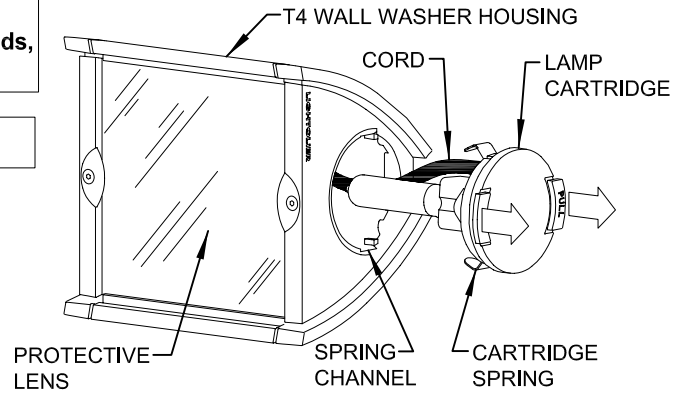

FIG. 4
1. While holding HOUSING, pull LAMP CARTRIDGE out. (See FIG. 4)
3. Align CARTRIDGE SPRINGS with SPRING CHANNELS and push LAMP CARTRIDGE back into HOUSING until it snaps closed. Make sure CORD travels behind reflector and doesn't pinch when CARTRIDGE is reinserted. (See FIG. 4 and 6)